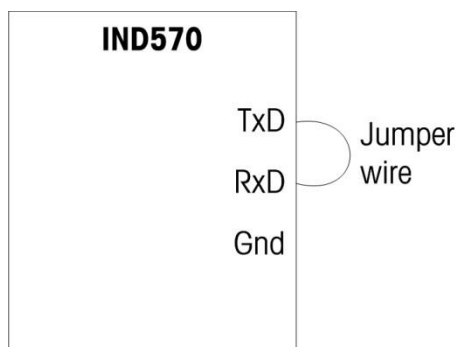

Figure 5-10: Jumper Wire Between Transmit and Receive Terminals
- Place a jumper wire between the transmit and the receive terminals (Figure 5-10) on the port being tested. If the transmit and receive functions of the serial port are functioning correctly, the same data string that is transmitted will display in the receiving field.